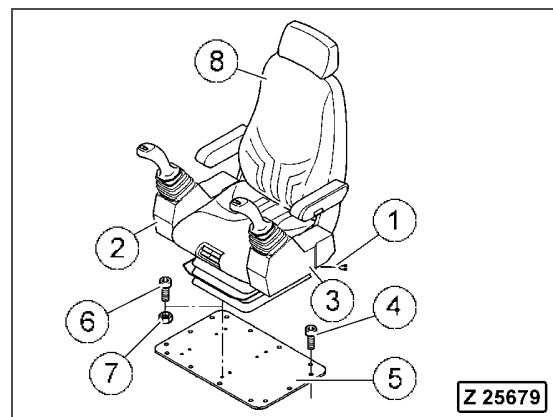

Fig. 3-184
4. Disconnect the wire harness connector (Fig. 3-184, Pos. 1) of the air suspension.
5. Remove both control lever carriers (Fig. 3-184, Pos. 2 and 3).
6. Remove all mounting bolts (Fig. 3-184, Pos. 4) from the cover plate (Fig. 3-184, Pos. 5).
7. Remove the cover plate (Fig. 3-184, Pos. 5) by removing all seat mounting bolts (Fig. 3-184, Pos. 6) and nuts (Fig. 3-184, Pos. 7) from the operator's seat (Fig. 3-184, Pos. 8).